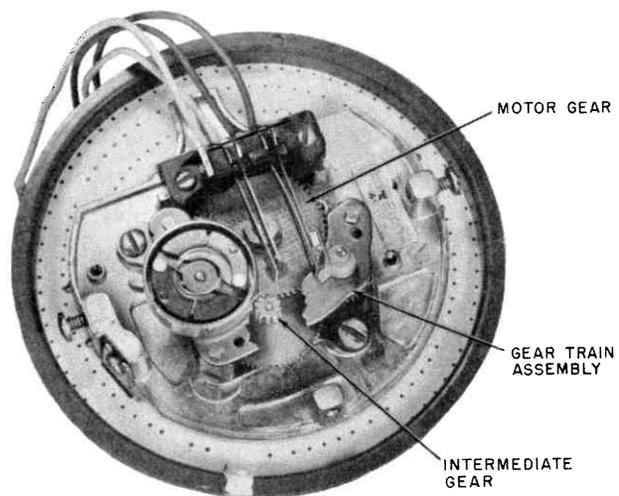

Fig. 23 — 7-Type Dial Gear Mesh
3.28 In 6- and 7-type dials, the motor gear meshes with the intermediate gear on the governor gear train assembly (Fig. 23).